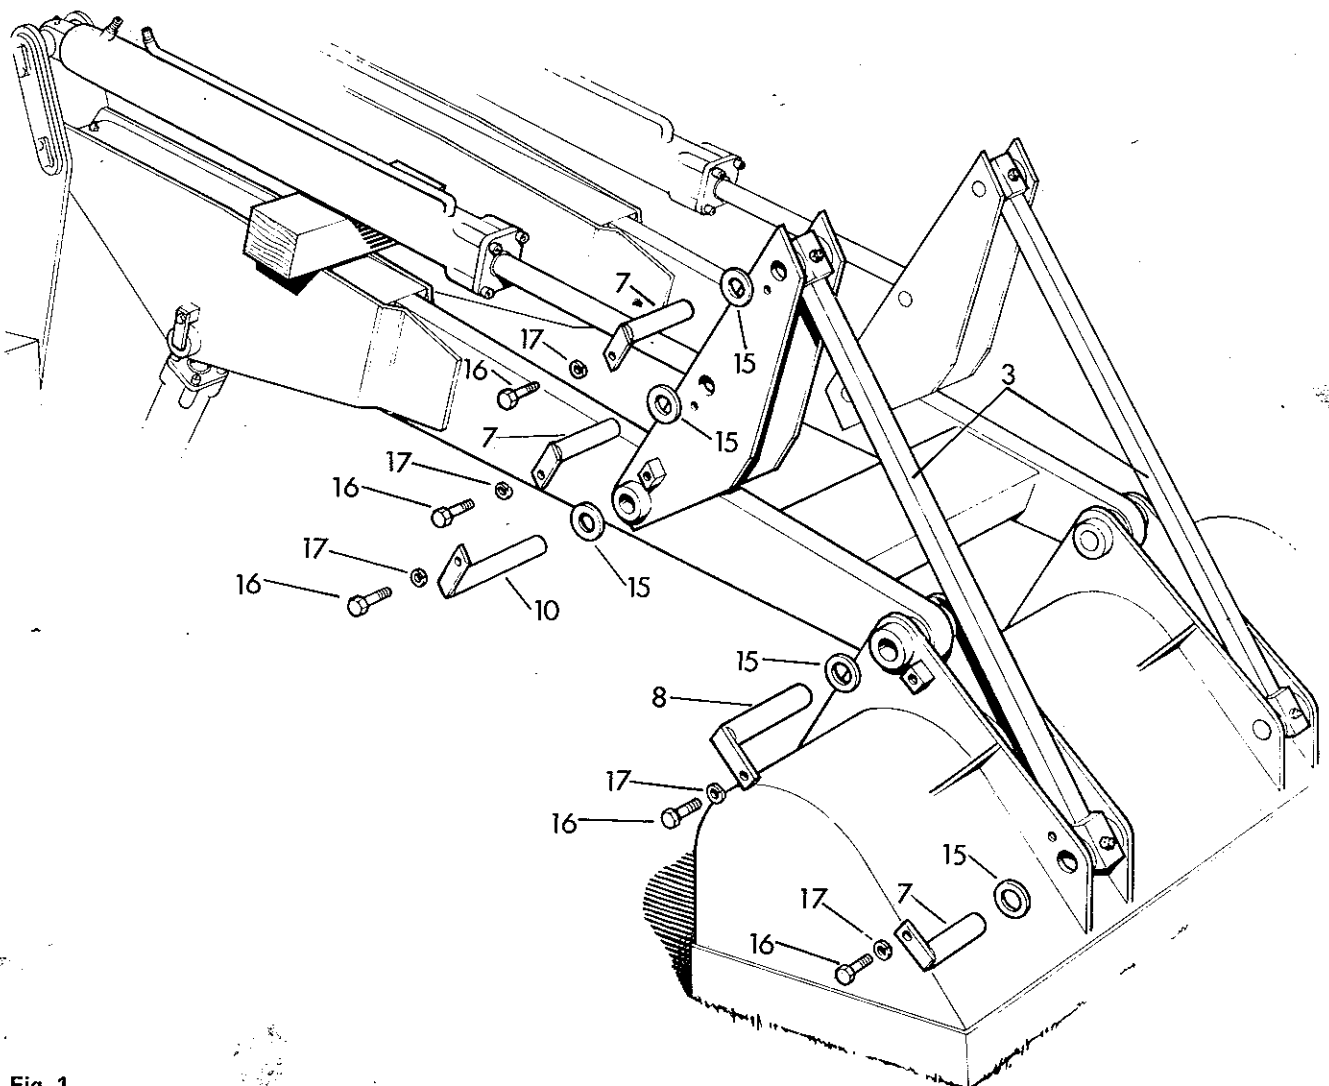

Fig. 1
6. **Bucket tipping link pivot pin. Remove.** (fig. 1) Remove the setscrew (16) and the washer (17) from the pivot pin. Using a hammer and suitable drift, remove the pin (7), collecting any washers (15). Repeat this procedure on the other tipping link.
7. **Bucket pivot pin. Remove.** (fig. 1) Remove the setscrew (16) and the washer (17) from the pivot pin (8), retaining the washer (15). Repeat this procedure on the other bucket pivot position.
10. **Tipping link. Remove.** (fig. 1) Repeat paragraph 6 and remove the tipping links (3).
16. **Tipping lever. Remove.** (fig. 1) Remove the setscrew (16) and the washer (17) from the pivot pin (10). Using a hammer and suitable drift, remove the pivot pin, collecting the washers (15) and lift the tipping lever from the machine.
17. **Hoses. Remove.** (fig. 1) Remove two hoses from the bucket ram. Fit blanking caps. Repeat the procedure on the other ram.